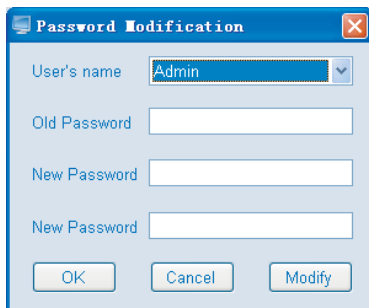
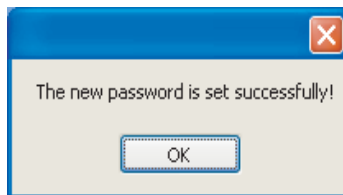
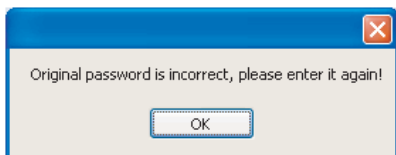
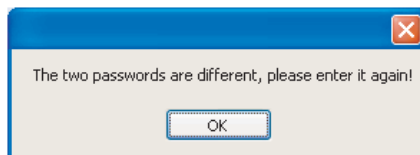

Fig.4-16
Fig.4-17
Fig.4-18
Fig.4-19
①Click “Password Modification” will display window as Fig. 4-16——input old password as requirement, and then reset a new password, click “OK” or “Modify”, window as Fig. 4-17 will show that new password has been already successful set; if input an old password error, window as Fig. 4-18 will show; if the new passwords be input do not match, the message box as Fig. 4-19 will display.